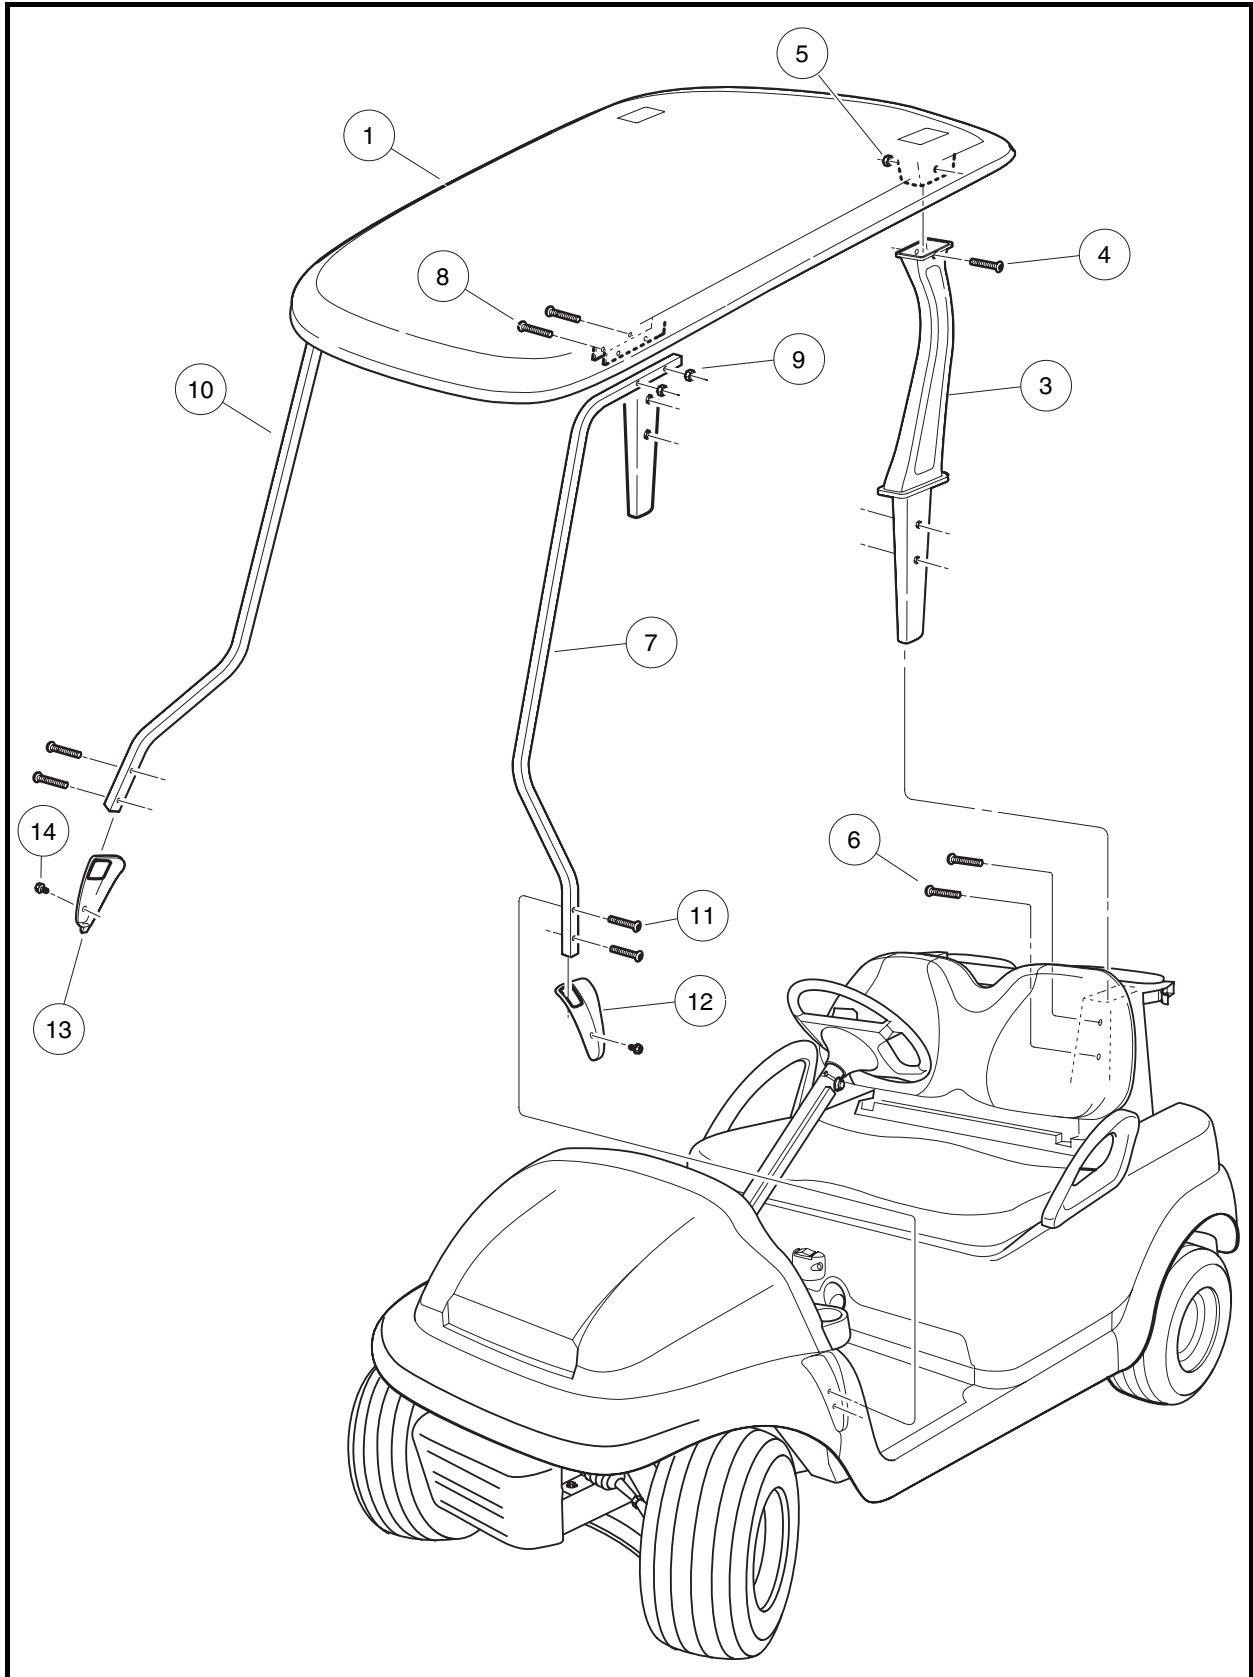

Figure 4-12 Precedent Two-Passenger Canopy
- **To prevent damage to the canopy, do not remove the canopy supports (3, 7, and 10) from the vehicle without first removing the canopy (1) (Figure 4-12, Page 4-17).**
1. Remove the two nuts (9) and two bolts (8) from the canopy (1) and each front canopy support (7 and 10) **(Figure 4-12, Page 4-17)**.
2. Remove the nuts (5) and bolts (4) from the canopy (1) and each rear support (3).
3. Lift canopy (1) away from front canopy supports (7 and 10) and rear supports (3).
4. Remove screws (14) securing front canopy support covers to front body.
5. Slide canopy support covers (12 and 13) up front canopy supports (7 and 10) to gain access to bolts (11).
6. Remove two bolts (11) from each front canopy support (7 and 10) and remove canopy supports from the vehicle.
7. Remove two bolts (6) from each rear support (3) and pull rear supports from vehicle.
- 1.1. Ensure the front supports are properly oriented to the correct side of the vehicle as shown (**Figure 4-12, Page 4-17**). The lower profile of each support follows the profile of the vehicle. If the supports are placed on the wrong side of the vehicle, they will not follow the vehicle's profile.